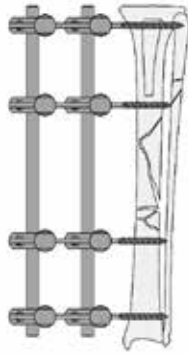

Fig. 23
Frame stiffness can be increased by (Fig. 23):
- Adding a second connecting bar adjacent to the first (Fig. 23)